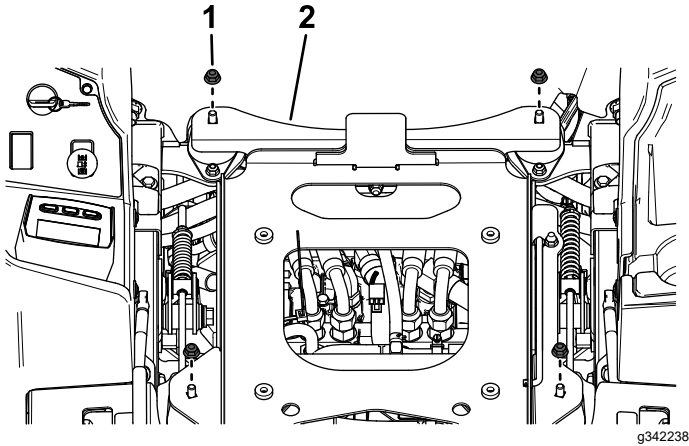

Figure 25
2. Remove the 4 flange nuts (3/8 inch) from the seat-support plate (Figure 25).